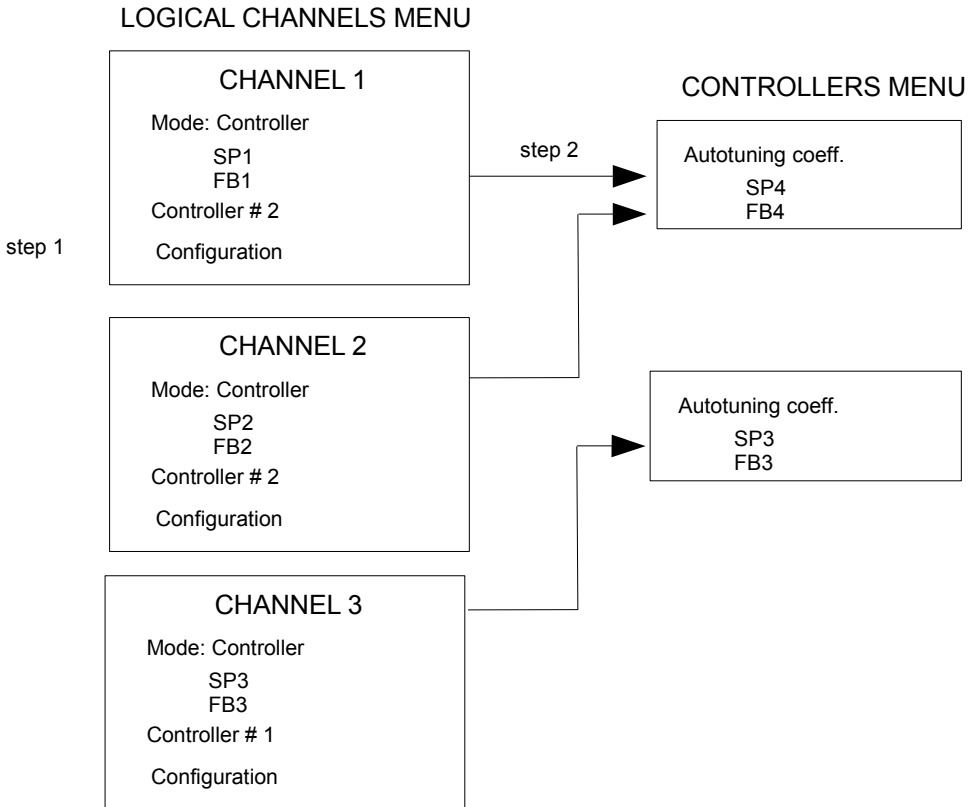

Fig. 7.124. Configuration diagram of the **Controller** using Logical channels Menu
- directly in the Logical channel in the Regulator mode by pressing the button Source configuration (see **Fig. 7.124**).